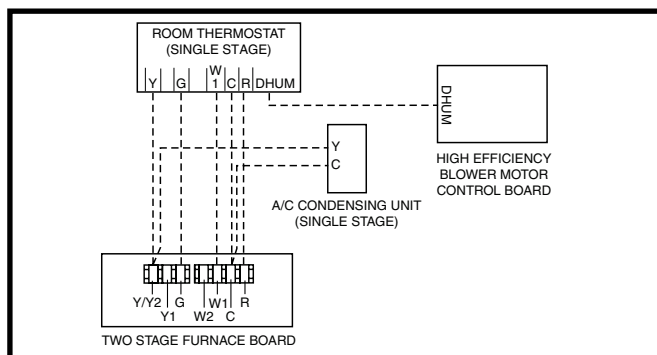
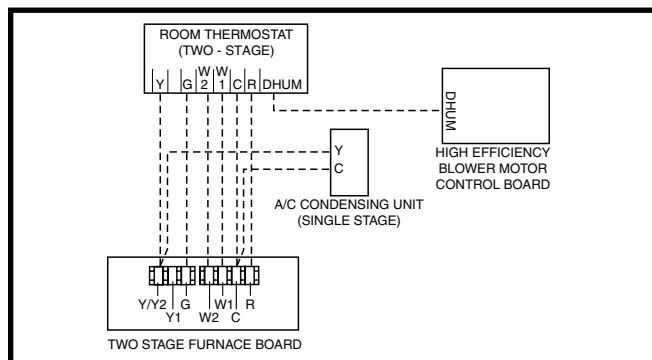
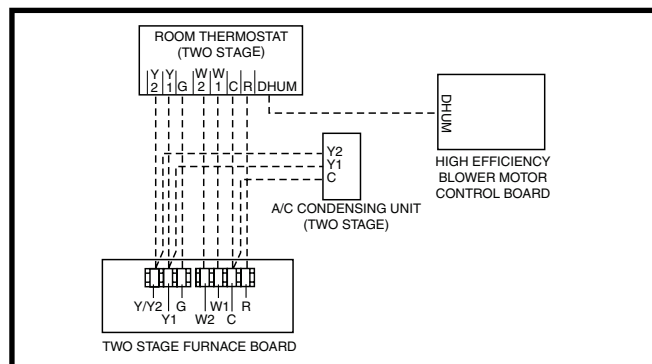

Figure 15. Wiring Configuration 1
Figure 16. Wiring Configuration 2
Figure 17. Wiring Configuration 3
- **Connect the thermostat's W output to the furnace control boards W1 terminal. This allows the furnace to always run in low output mode. See Figure 15.**
This option uses the full two-stage heating capability of the furnace with a single stage outdoor unit. See Figure 16.
This option uses the full two-stage heating capability of the furnace with a two-stage outdoor unit. See Figure 17.
The Autostaging feature included make it possible to use a single stage thermostat and still receive some of the benefits of 2-stage furnace operation. If Autostage is enabled, the furnace will drop to **LOW** fire after initially starting in **HIGH** fire. After a period of 10 minutes, the furnace will then stage up to **HIGH** fire, until the heating load is met. See Figure 15 and the Thermostat / Low Voltage Connection section.
- ✓ Verify that all needed thermostat wires are securely connected to the correct leads on the terminal strip of the circuit board. See Figure 15, \(page 20\), Figure 16, \(page 20\), & Figure 17, \(page 20\).
The operating sequences for the heating, cooling, and fan modes are described below. Refer to the field and furnace wiring diagrams: Figure 14, \(page 19\) , Figure 15, \(page 20\), Figure 16, \(page 20\), Figure 17, \(page 20\), Figure 25, \(page 29\), Figure 26, \(page 30\), Figure 27, \(page 31\), and Figure 28, \(page 32\).